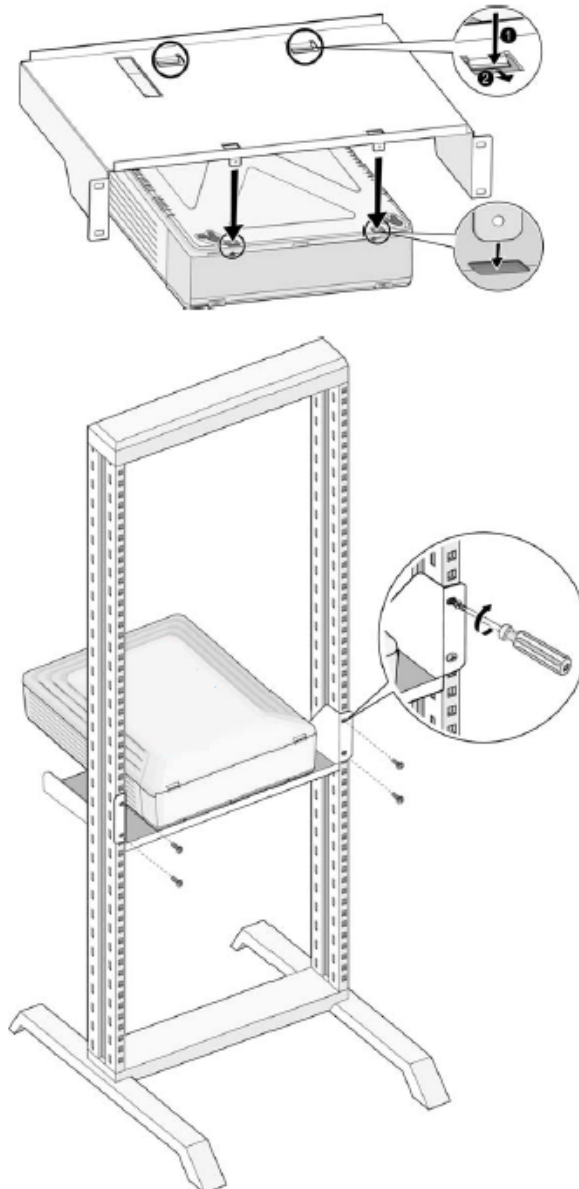

Figure 3-6 Rack Bracket and Rack Mounting
1. Attach the rack bracket to the bottom of the SBX IP 320 System as shown in Figure 3-6 and attach it to the System securely by tightening the screws clockwise.